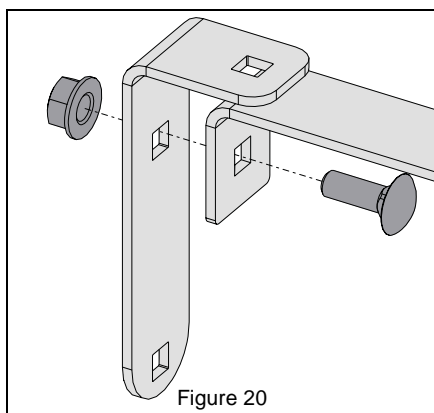

Figure 20
2. Remove hardware from L-bracket and secure L-bracket to battery bracket. See Figure 20.